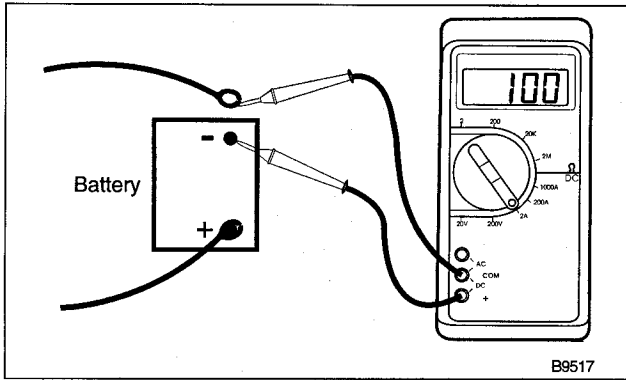

Fig. 1. Electrical system static current draw being measured.
3. Connect a digital ammeter between negative battery post and negative battery cable to measure current. See Fig. 1. Wait at least one minute to get an accurate reading.